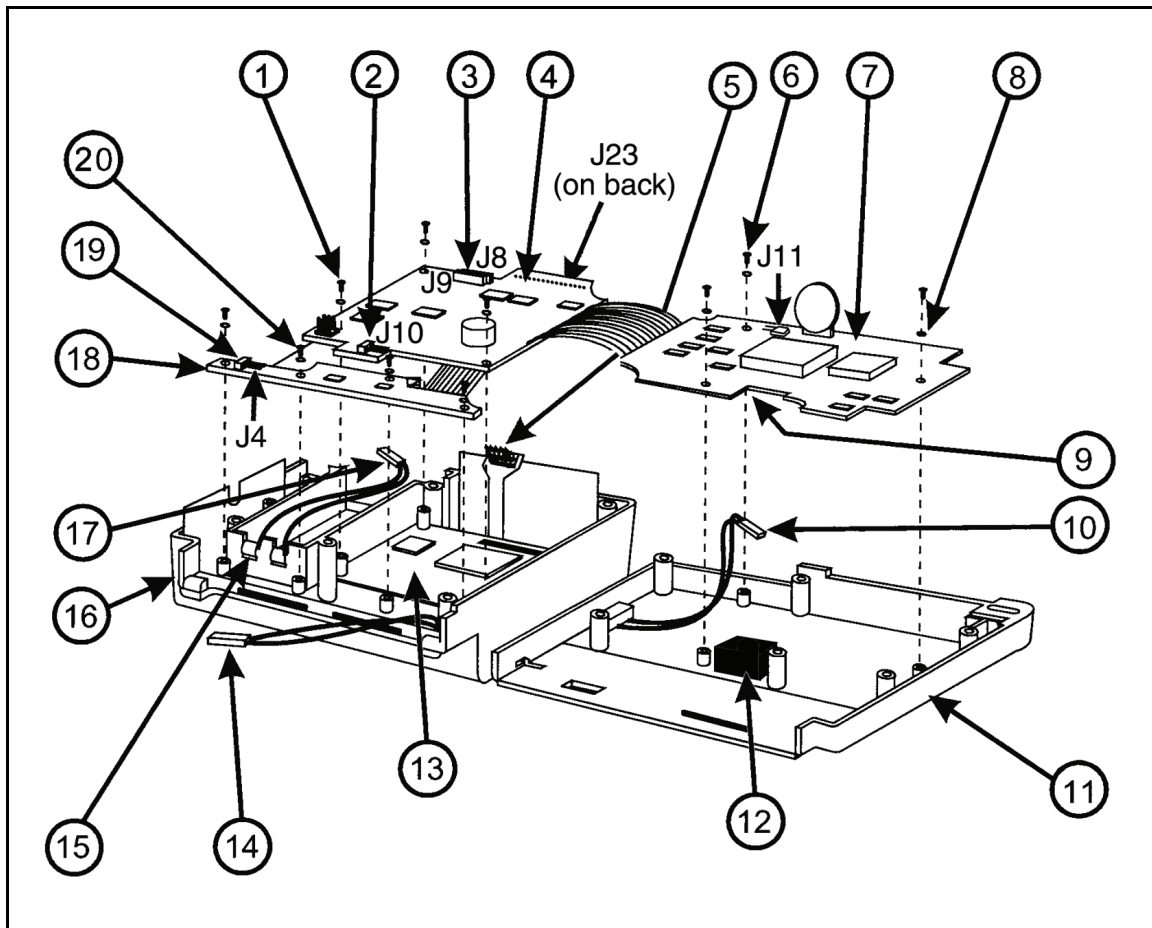

Figure 6-5. MPU PCBA Removal
2. Refer to Figure 6-5. Remove the jumper from J11 on the Primary PCB (7).
3. Remove the three screws (6) and three lock washers (8) that hold the Primary PCB (7) to the Rear Case Assembly (11).
4. Carefully lift the Primary PCB (7) and disconnect the Reed Switch Cable (10) from J1 (9) on the under side.
5. The Rear Case (11) can now be moved aside, using care not to damage the DDMM Hold-down Foam (12).